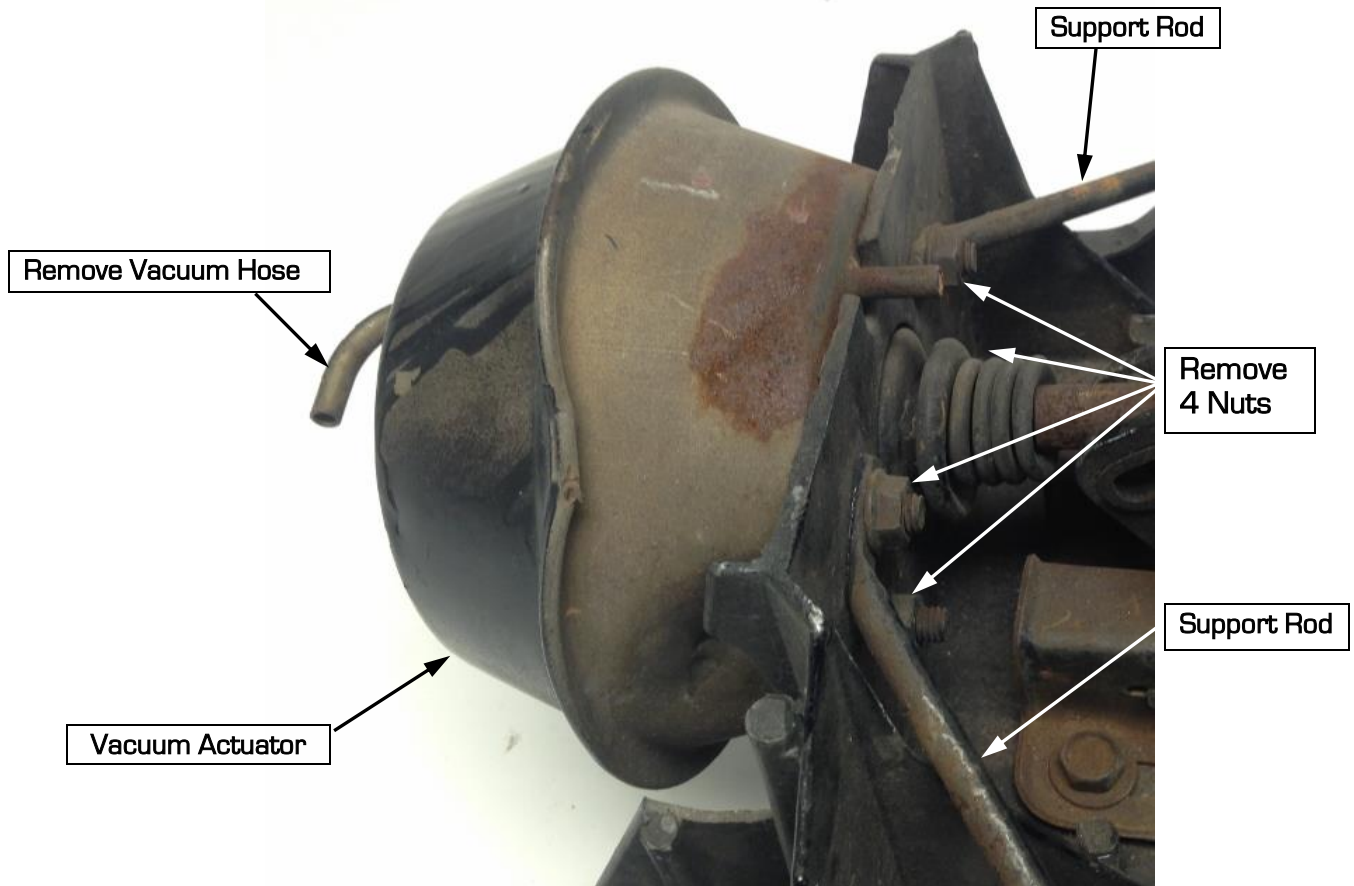

Figure 5 - Remove Vacuum Actuator
5. Remove the vacuum lines from the actuator. Remove the vacuum actuator from the headlight assembly by removing 4 hex nuts (Figure 5).